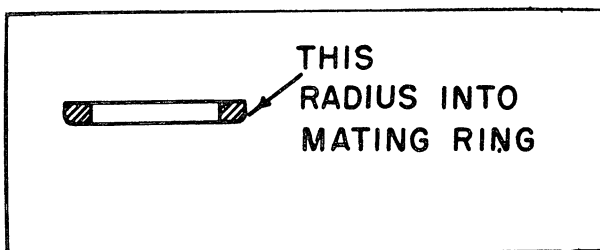

Figure 108
8. Slip the mating ring, with its rubber insert, into position over seal nosepiece. Be sure to keep the mating ring very clean and be sure that the rubber insert is correctly seated in the mating ring, *Figure 108*.